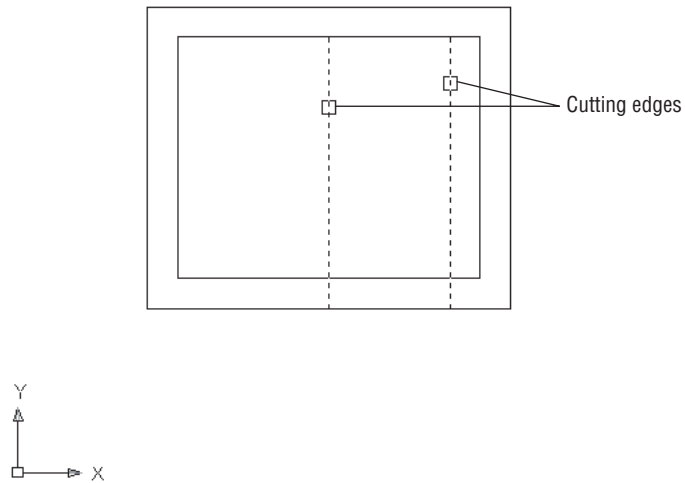

FIGURE 2.20: Lines selected to be cutting edges
2. Pick the two vertical offset lines that were just extended as your cutting edges, and then press \downarrow (see Figure 2.20).